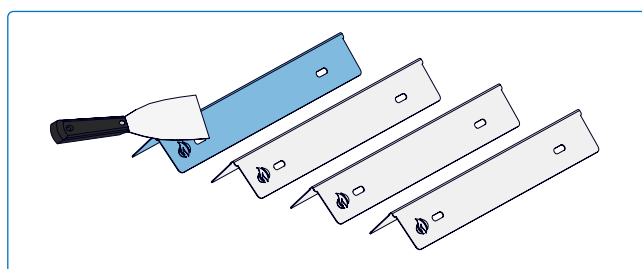

Fig. 22
5. Remove the sear plates and brush debris from the burners using a wire brush (**Fig 22**).